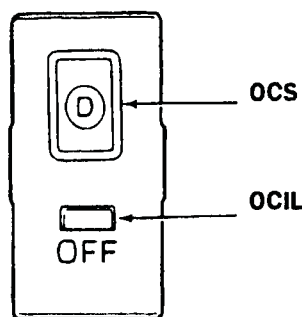

Figure 36
**Description:** The Overdrive Cancel Switch is a momentary contact switch. When this switch is pressed, a signal is sent to the processor assembly. The processor then energizes the Overdrive Cancel Light and Solenoid 4, applying the coast clutch to provide engine braking and canceling fourth gear operation (Figure 36).